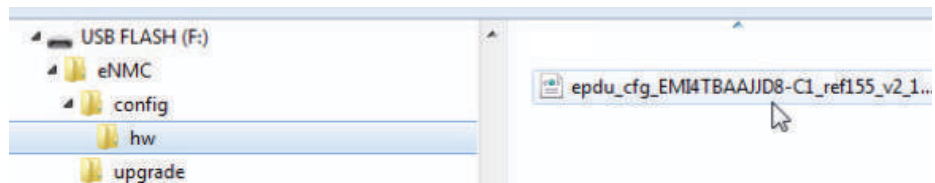

Figure 99. USB Root Directory
- Select Save eNMC file to save the ePDU hardware configuration file to the USB drive. The file will save to the eNMC/config/hw path at the USB drive root directory (see Figure 99).